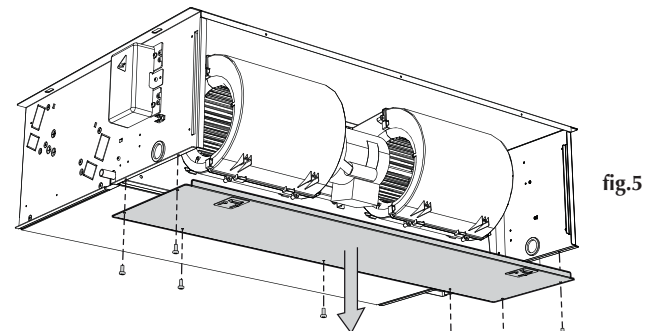

fig.5
- Remove the ventilation compartment closure panel (fig.5)